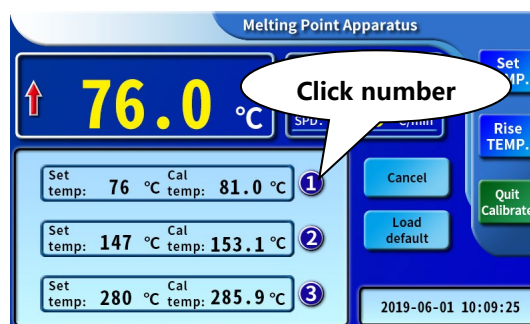

Figure 5
2. After entering the correction mode, the display screen shows the correction point selection interface, Figure 5. There are three correction points in total.